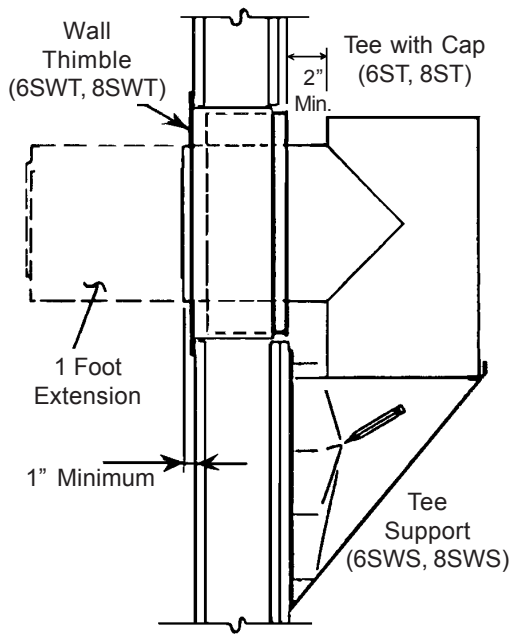

Figure 10
4. Outside the house - place the tee (6ST, 8ST) on the support (6SWS, 8SWS) and line up the tee snout with the wall thimble. Place the support flush against the wall and mark through the screw holes onto the wall (see Figure 10). Remove the tee from the support and screw the support to the wall at the marked location with nine (9) #10 screws. Place the tee, female end down, while sliding the snout through the thimble making sure to maintain required clearance to combustibles. Tee snout must protrude through the wall a minimum of 1". Snout is adjustable for 4 1/2" to 8" thick wall. For wall thickness greater than 8", it will be necessary to install a short (1 foot) chimney section so that the proper clearances can be maintained and the connector installation would not terminate inside the wall cavity.